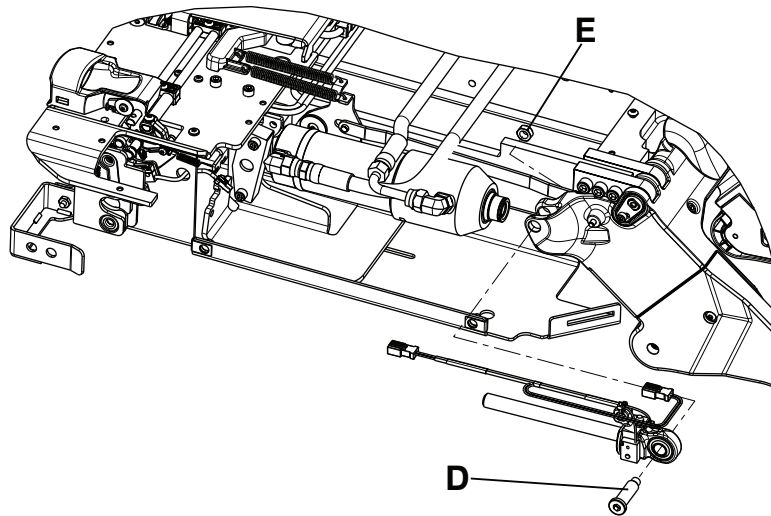

Figure 22 – End cap cylinder pin and nut locations
8. Using a 1/4" hex wrench and a 1/2" combination wrench, remove the end cap cylinder pin (D) and nut (E) (Figure 22). Save the end cap cylinder pin and nut.